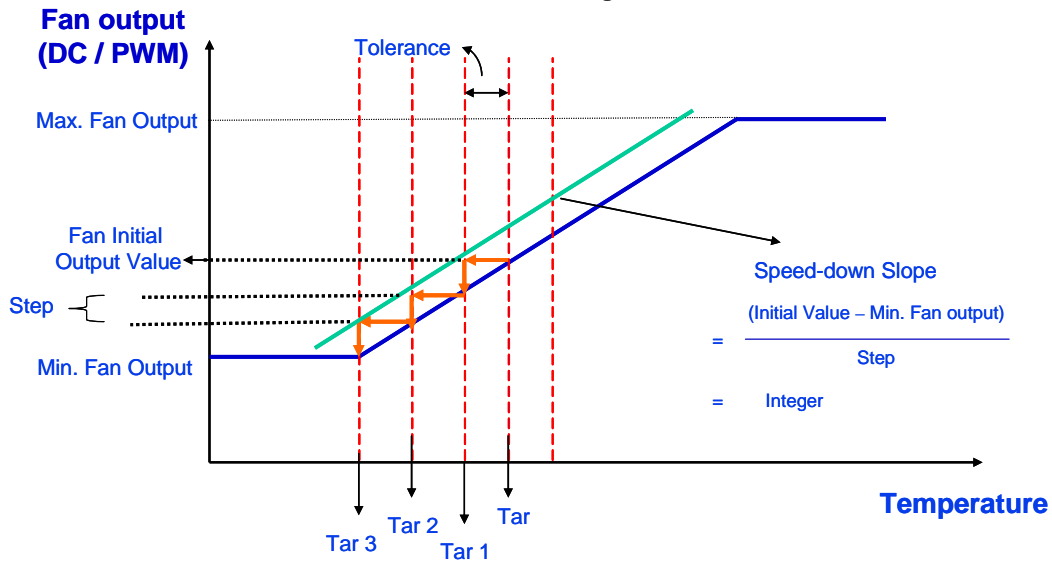

Figure 6.11
- (7) In the case that currently measured temperature goes below (Target Temperature - Temperature Tolerance), which is shown in Figure 6.11, fan speed slows down by one step. "Step" here refers to the value in the CPUFANOUT Output Value Select Register, Bank0 Index03h or Index61h.
- (8) Meanwhile, original Target Temperature dynamically shifts to (Target Temperature - Temperature Tolerance), and new Target Temperature, named Target Temperature 1, is formed. In other words, Target Temperature 1 equals original Target Temperature minus Temperature Tolerance.
- (9) If the currently measured temperature is within the (Target Temperature 1  $\pm$  Temperature Tolerance) then, the fan speed remains constant. Otherwise, fan speed slows down by one step again. Target Temperature then dynamically shifts to (Target Temperature 1 - Temperature Tolerance), and new Target Temperature again, named Target Temperature 2, is formed.
- (10) The fan-slow-down and Target Temperature comparison-then-shift process continue until currently measured temperature locates within (Target Temperature X  $\pm$  Temperature Tolerance), or fan output speed hits its minimum speed.
- (11) **Please be noted that "Speed-down Slope" shown in the Figure 6.11 must be an integer.** In other words,  $\frac{InitialOutput - Min.FanOutput}{Step}$  must be an integer; otherwise, it may lead to register overflow.
- (12) In the case that the temperature is always lower than (Target Temperature X - Temperature Tolerance), and, for some reason, the fan speed would like to be kept at the minimum speed, Stop Value, instead of being stopped, set register Bank0 12h.bit 4. Set bit 4 to 1, fan speed will always keep at the value set in Bank0 Index09h when temperature is always below (Target Temperature X - Temperature Tolerance). Set bit 4 to 0, fan speed will decrease to 0 after a time period set in Bank0 Index0Dh.